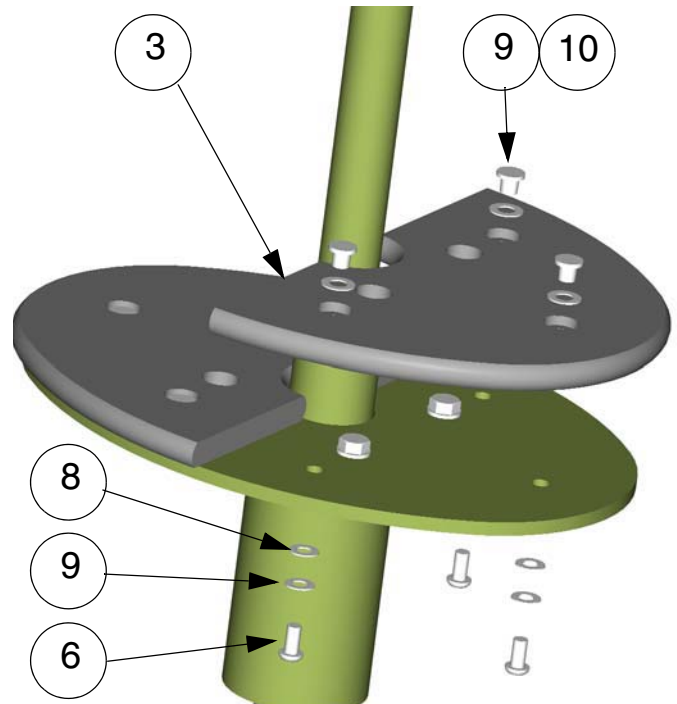

FIG.7
- vii) Fit 3 off Tee Nut (item 10) and Shakeproof Washer (item 9) into each Eko Grip Platform (item 3). (FIG.7).
- viii) Locate each Eko Grip Platform (item 3) into position on the Whizzer Pole Assembly plate (item 1) and secure into place with 3 off M10 x 20 Resistorx Bolts (item 6) and M10 Washers (item 8) and Shakeproof Washers (item 9) and fully tighten. (FIG.7 & 8).
- i) Dis-assemble the Eko Grip Platform from the Shaft & Bearing Assy by removing 6 off M10 x 20 Resistorx Bolts. See Section 1 FIG.7.
- xiv) Re-assemble the Eko Grip Platform on to the Shaft & Bearing Assy using 6 off M10 x 20 Resistorx Bolts. See Section 1 FIG.7.